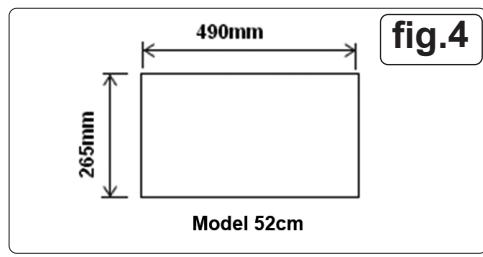

fig.4
- Drill a hole in the cupboard, with hole wide 490*265(mm) for model 52cm. Refer to picture below, make sure the distance between the edge of the hole and the edge of the cupboard edge is at least 35mm. See fig.4.